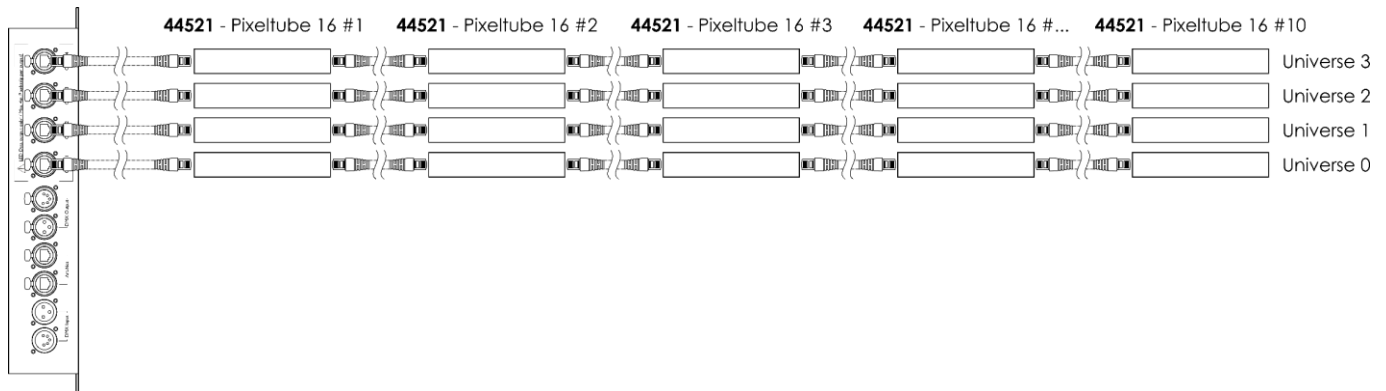

Fig. 06
Connect the Pixel Controller's output port to the Pixeltube's **RJ45 input connector (03)** with a CAT cable (max. 10 m). For more information about the connection of power supply, see Fig. 06 on page 10 and refer to the user manual of the Pixel Controller (44510).
- 04) Repeat step 3 to connect up to 10 Pixeltubes per output, as shown in Fig. 06 on page 10.